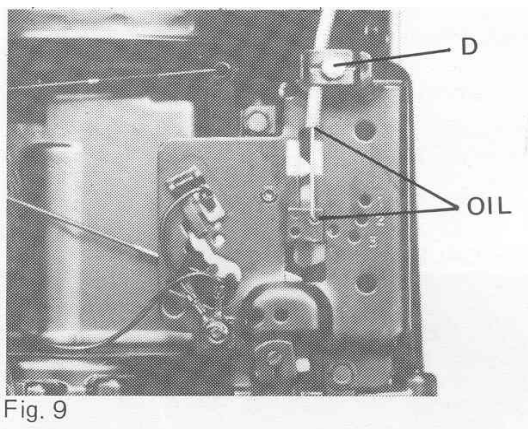

Fig. 9
1. Loosen outer cable clamp screw (D) on engine; See Fig.9.
The carburetor has been factory set and should only require occasional fine tuning. See Figs.9 & 10.
- Throttle control cable Fig.9